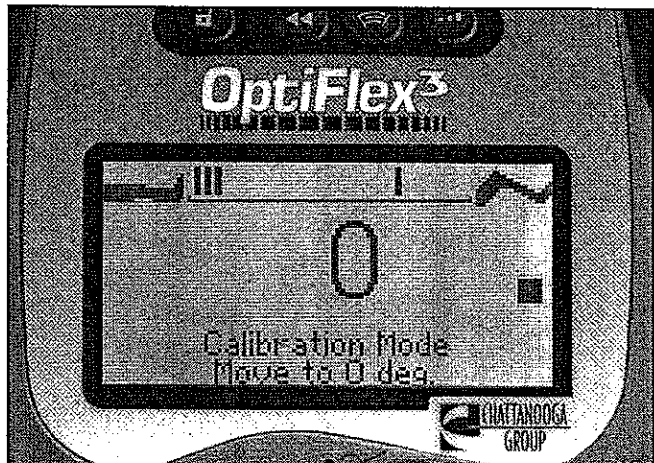

FIGURE 7.3
3. Release the "Comfort Zone" button. "Calibration Mode Move to 0 deg." should be displayed at the bottom of the Pendant display window. See Figure 7.3.